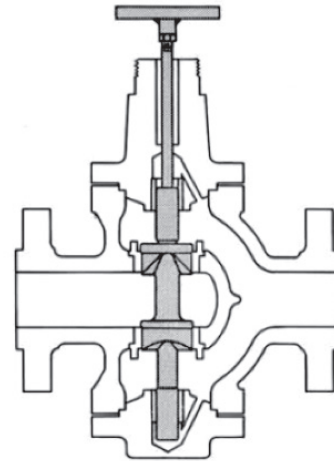

Figure 5
- H. Insert two or three pieces of packing (17) into the packing box to assist in guiding the stem and plug during lapping.
- I. Screw a drilled and tapped rod with a tee handle onto the plug stem and secure with a lock nut. (See Figure 5).